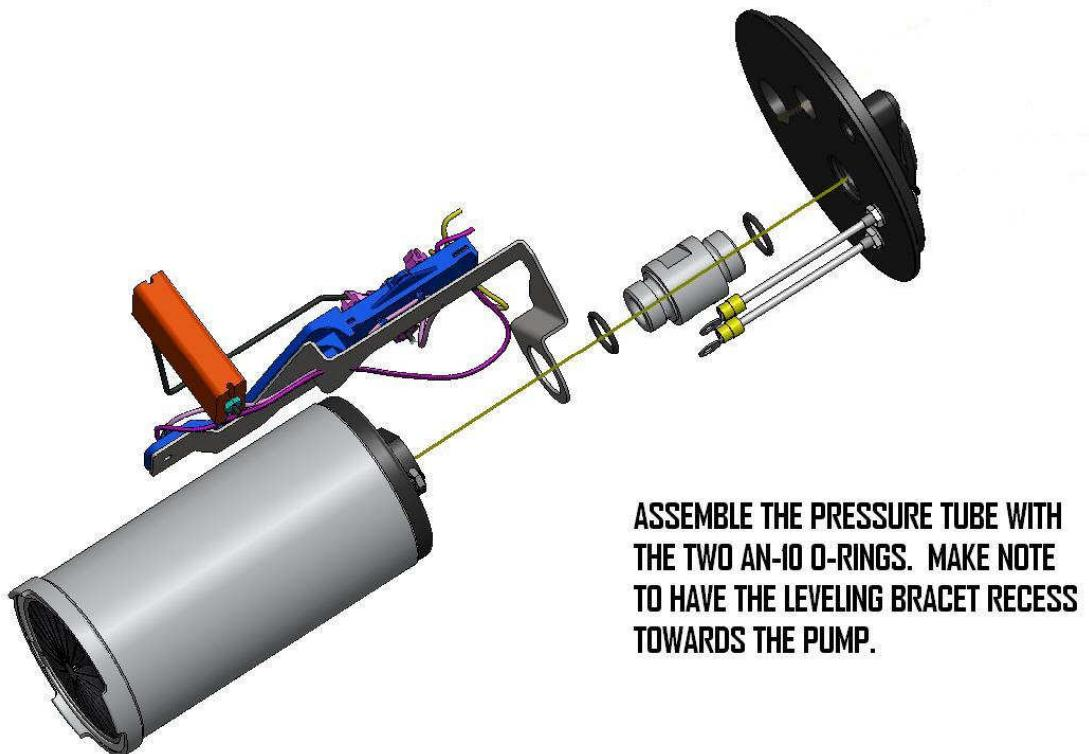

FIGURE 1-5
12. Now it's time to assemble your Aeromotive Stealth fuel pump! Use the figure below to assemble your fuel pump. **FIGURE 1-5.**